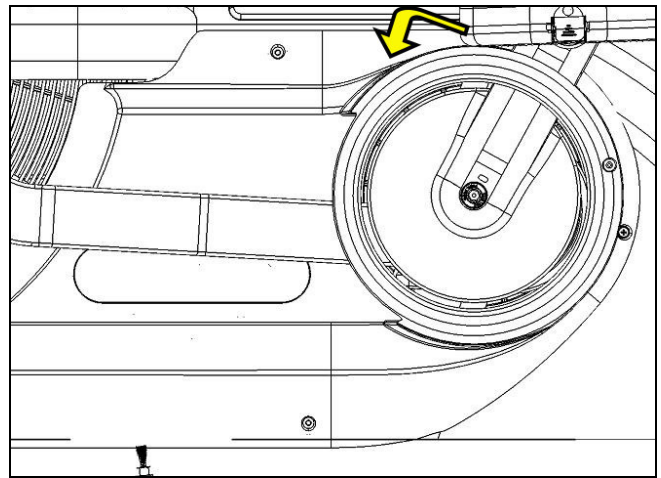

Fig. 2
2. Twist the crank cap counter-clockwise until clip slips out of the slot (Fig. 2). Then remove the crank cap.